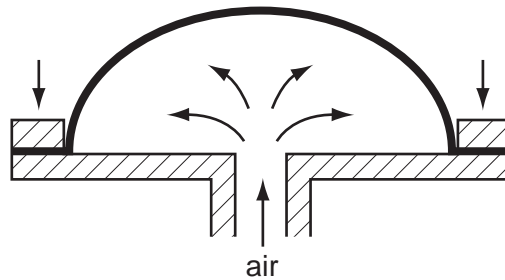

Fig. 4
- 8 Fig. 4 is a diagram used to explain a plastics forming process.